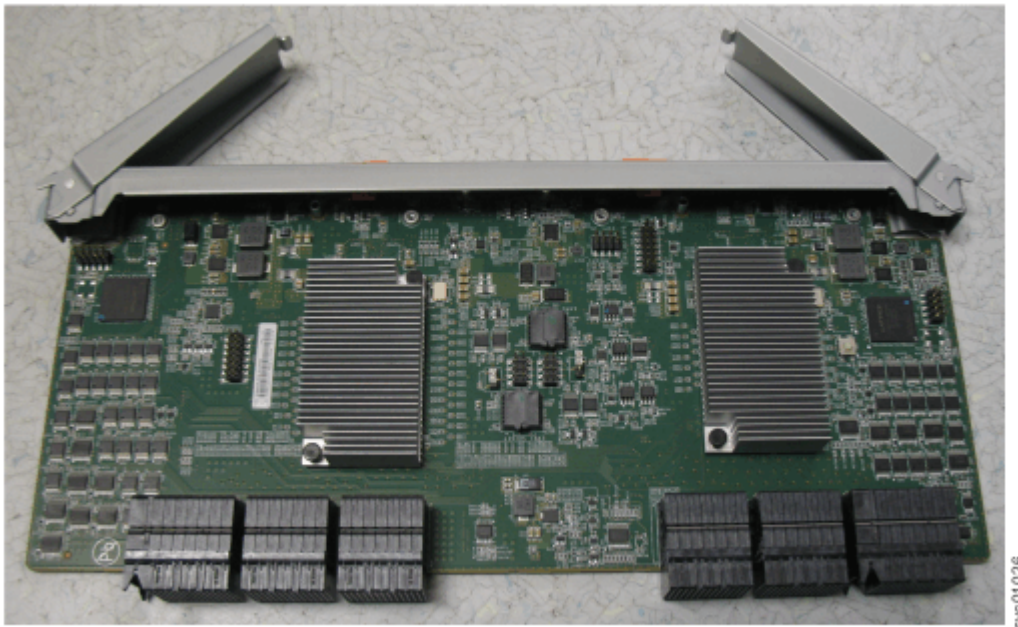

Figure 143. Secondary expander module removed from the enclosure
5. Place the secondary expander module in a safe location, as shown in Figure 143 on page 186.